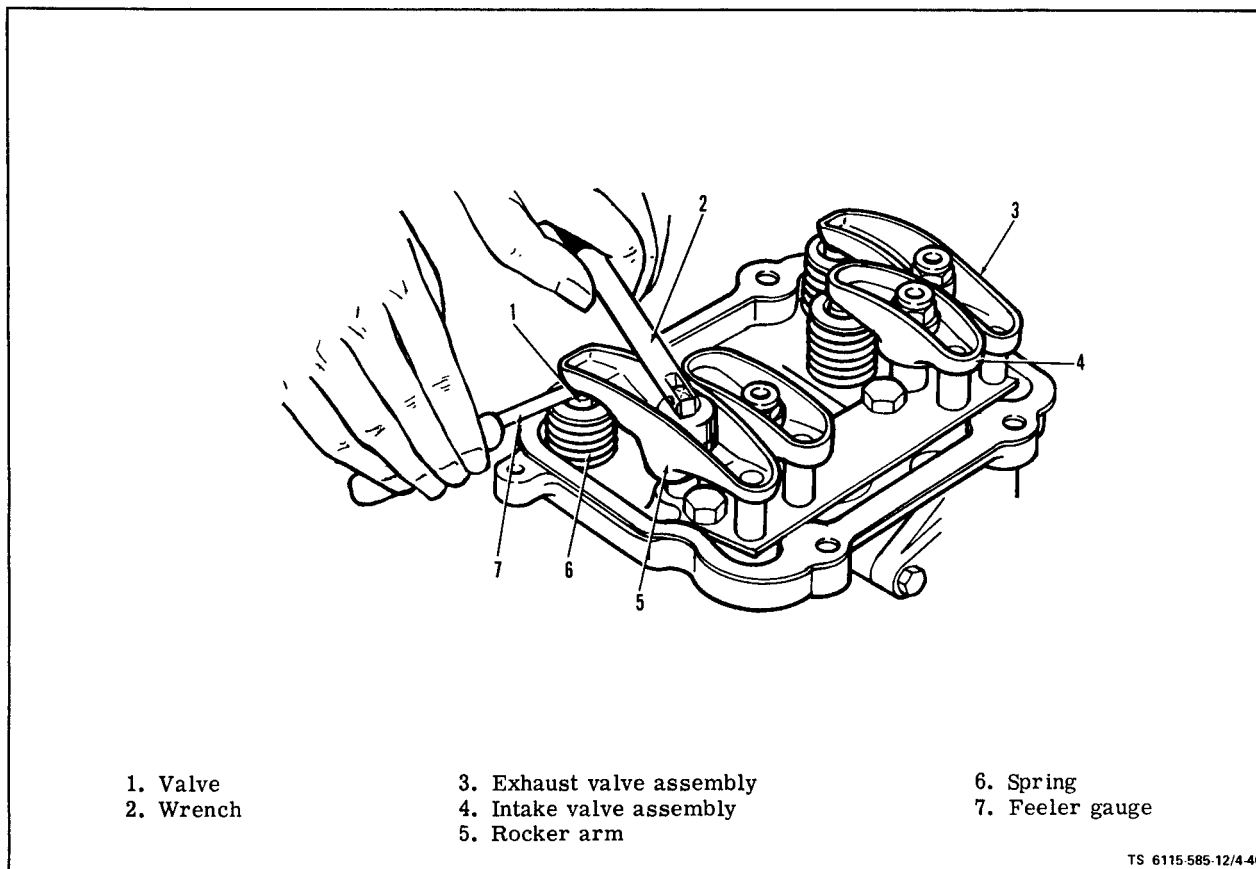

Figure 4-40. Checking and Adjusting Rocker Arm to Valve Clearance
a. **Inspect** (see figure 4-40). Inspect rocker arms for physical damage or excessive wear.
(1) Using 5/8" socket wrench and extension, turn the blower wheel clockwise until No. 1 cylinder is on its compression stroke, which follows the closing of its intake valve. See figure 4-40 for identification of intake valve assembly.
(2) Continue clockwise rotation until the letter "A" appears in the timing port on the side of the
(3) By using a feeler gauge, check the clearance between the rocker arm and the valve stem cap. See figure 4-40. Increase or reduce the clearance until the proper gap is established, adjusting with the locknut which secures the rocker arm to the cylinder head. Correct valve clearance is 0.010 for intake valve, 0.007 for exhaust valve.
(4) To adjust the valve clearance for No. 2 cylinder, turn the blower wheel clockwise 180° until the letter "B" appears in the timing port and adjust valves as given in step 3.
(5) Turn blower wheel an additional 180° until "A" again appears in the timing port and adjust valves for No. 4 cylinder as given in step 3.
(6) Turn blower wheel an additional 180° until "B" again appears in the timing port and adjust valves for No. 3 cylinder as given in step 3.
(7) Install rocker cover and tighten screws 7 to 8 ft-lb.